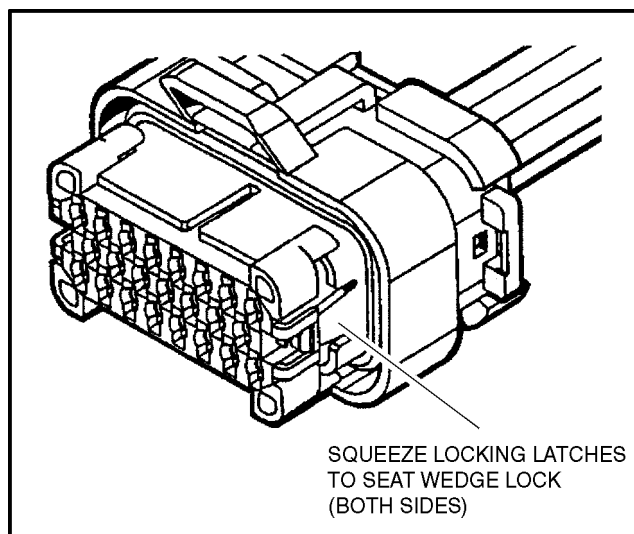

Figure 7-9. Connector Assembly Figure 3
3. After all required contacts have been inserted, the wedge lock must be closed to its locked position. Release the locking latches by squeezing them inward (See Figure 7-9.).